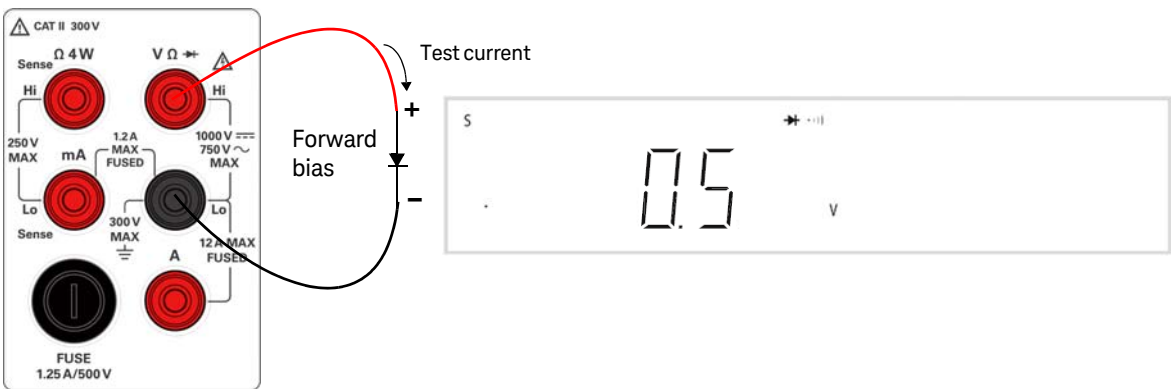

Figure 1-17 Forward-biased diode/continuity test terminal connection and display
- 2 Connect the red and black test leads to the input terminal as shown in Figure 1-17.
- 3 Connect the red test lead to the positive terminal (anode) of the diode and the black test lead to the negative terminal (cathode). Refer to Figure 1-17.